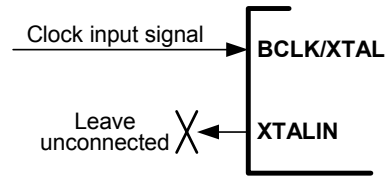

Figure 45. Clock input from external system.
3. A user-provided logic signal supplies the operating clock frequency when applied to the XTAL input pin. The XTALOUT pin should be left unconnected, as shown in Figure 45.